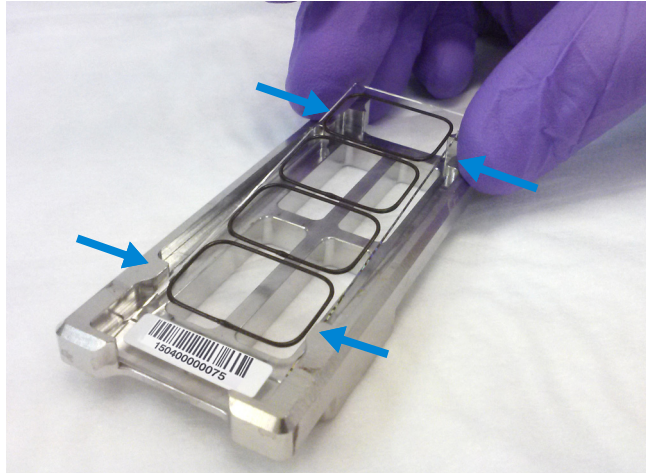

Figure 4. Chamber base, guide posts denoted with arrows
- 3 Position the gasket slide between the 4 chamber base guide posts (see **Figure 4**) with the barcode label resting over the base's rectangular barcode guide.